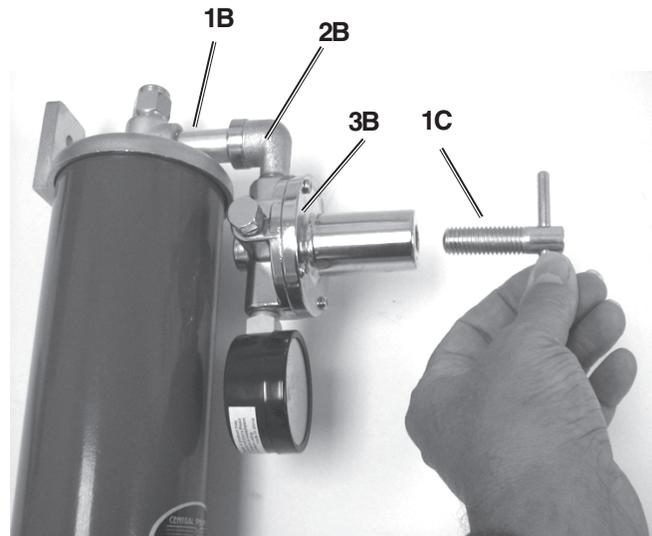

Figure 4
3. Thread the Regulator Handle (1C) into the Air Regulator (3B) until tight. See Figure 4. When assembly is complete, it should look like the photo in Figure 5 below.